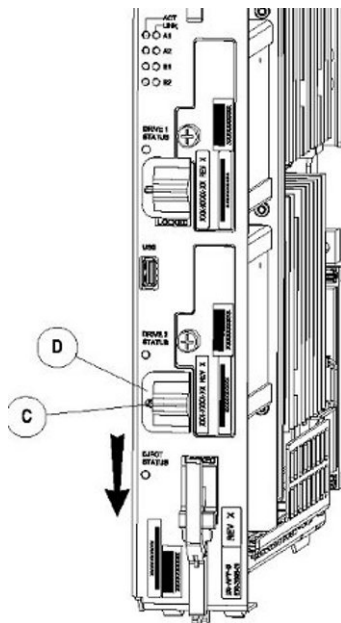
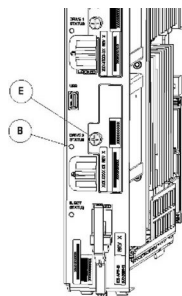
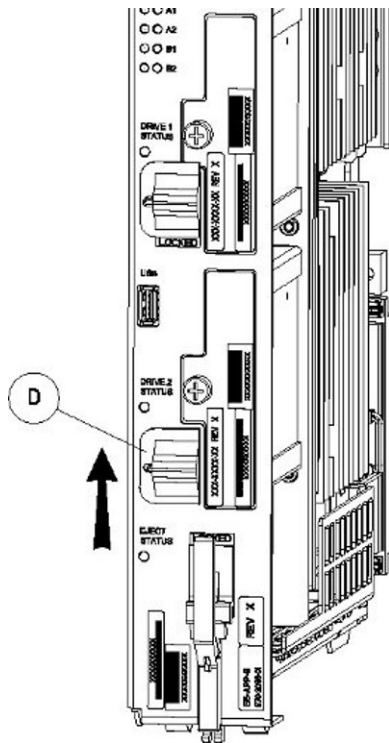

Figure 34: Drive Module UNLOCKED
Figure 35: Drive Module Status
Figure 38: Drive Module Locked
2. Move drive module locking switch (D) from the LOCKED to the unlocked position and wait for the LED (B) to indicate a steady red state. See Figure 34: Drive Module UNLOCKED and Figure 35: Drive Module Status, respectively.
4. Loosen the drive module screw (E) (see Figure 35: Drive Module Status).
2. Gently push the drive (A) in slowly until it is properly seated.
3. Tighten the mounting screw until the Drive Status LED is in a steady red state ((B), from Figure 35: Drive Module Status).
4. Move the drive module locking switch (D) from the unlocked to the LOCKED position.
When drive module locking switch (D) is transitioned from unlocked to locked, the LED will flash red to indicate the drive is locked and in process of coming online (see Figure 38: Drive Module Locked).